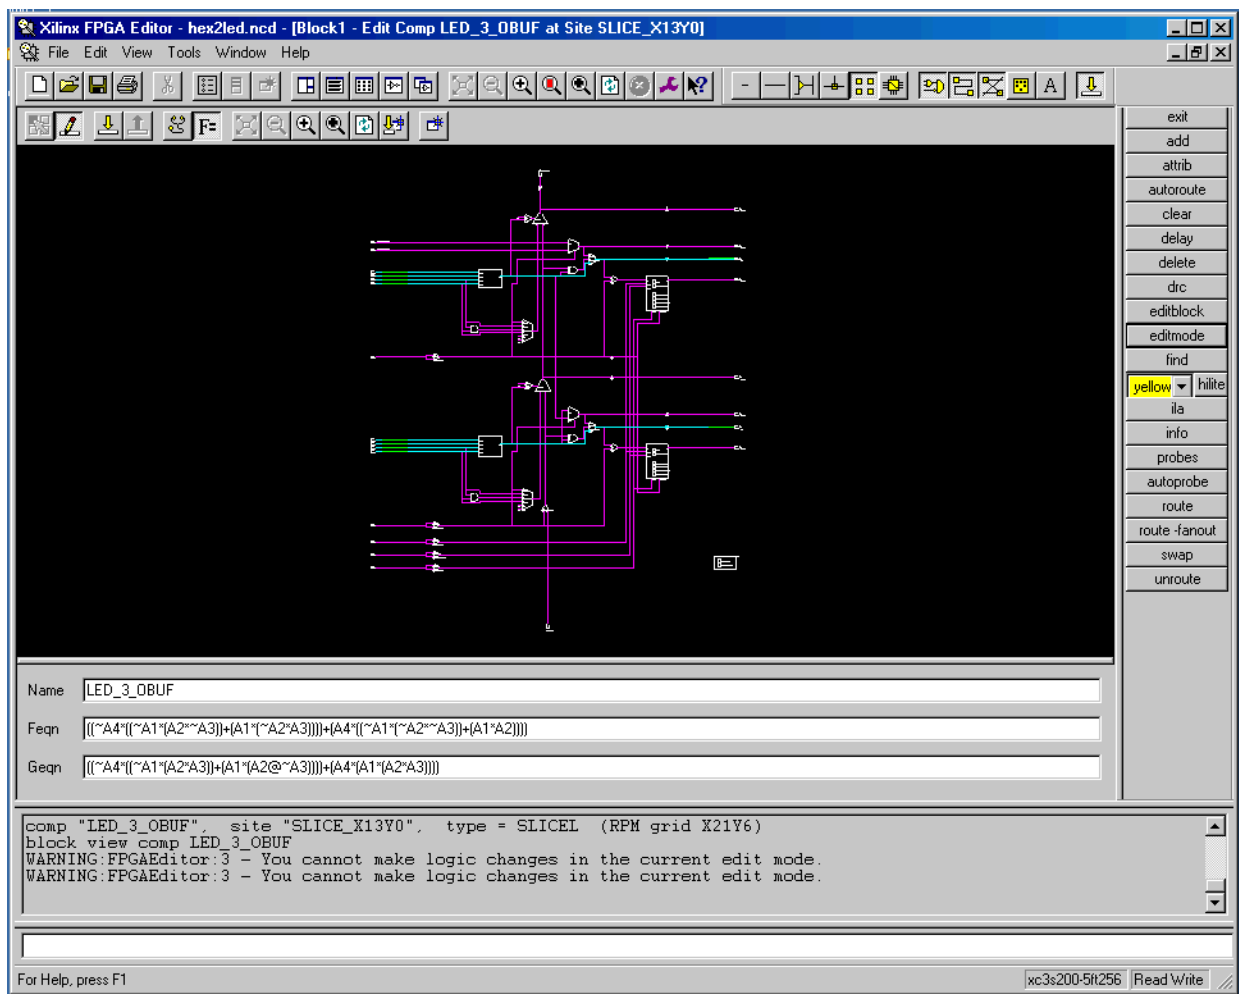

Figure 3: Block Window View with Show/Hide Selected
10. Now change the Feqn and Geqn for the two LUTs in the slice. When the mouse is held over a LUT, a text box appears to indicate the F LUT or the G LUT. Figure 3, page 5 shows the Block window after the **Show/Hide Attribute** icon is selected.